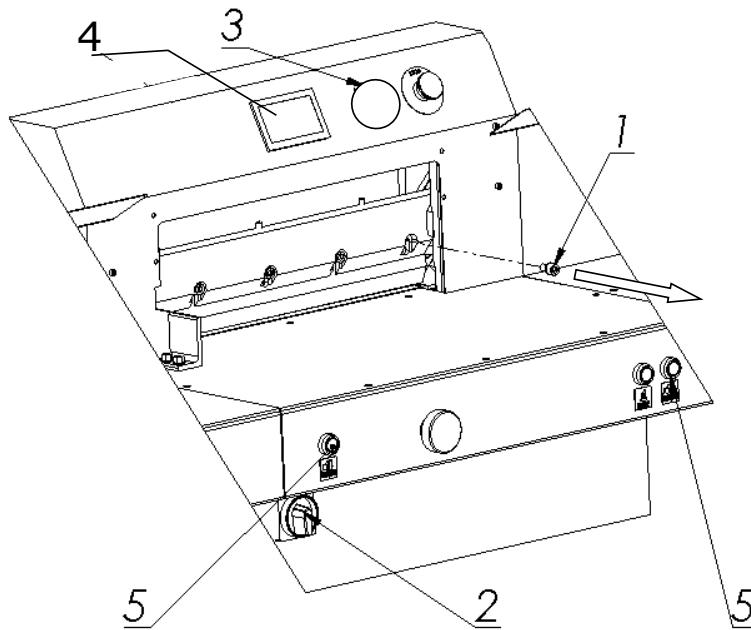

Figure.22
Unscrew and remove the first fastening screw 1 from the right side of the cutter bar (fig. 22).
**8.1.1.5** Switch on the power supply of the electrical system by turning the main switch knob 2 (fig.22) to position "I"
**8.1.1.7** On the program screen 4 (fig.22), deactivate the "knife change" function
**8.1.2.8** Press the "Change knife" function on the programmer 4 (Fig.22)
**8.1.2.20** Switch on the power supply to the control system by pressing the green push button 3 (fig.22).